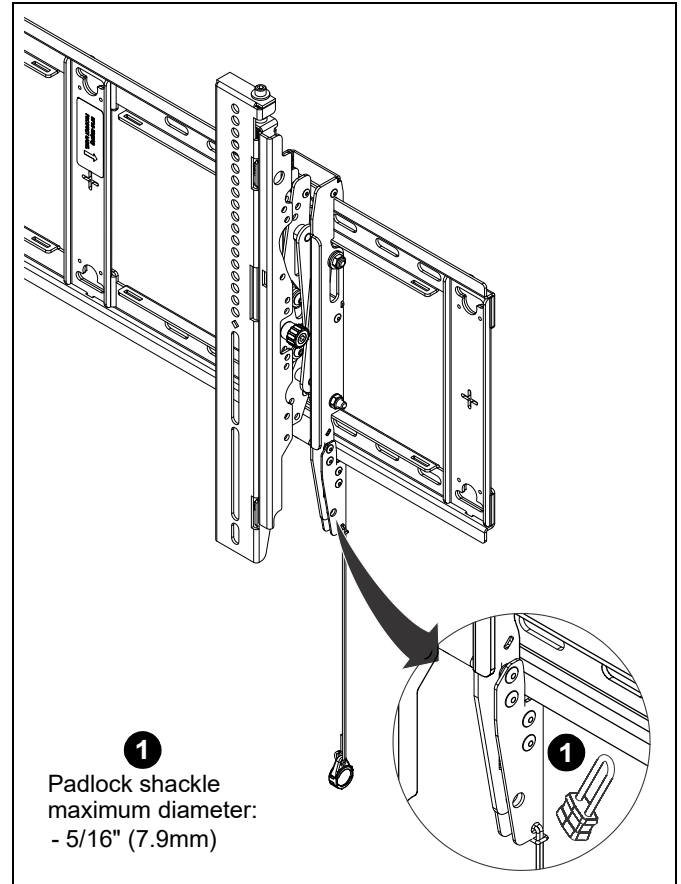

Figure 17
1. Add padlock (not included) to interface bracket to complete security. (See Figure 17)